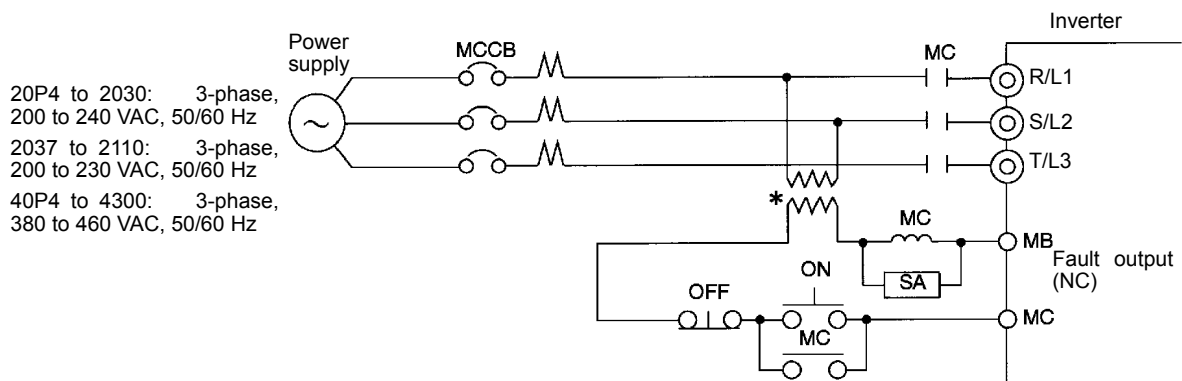

Fig 2.6 MCCB Installation
- If the same MCCB is to be used for more than one Inverter, or other devices, set up a sequence so that the power supply will be turned OFF by a fault output, as shown in Fig 2.6.